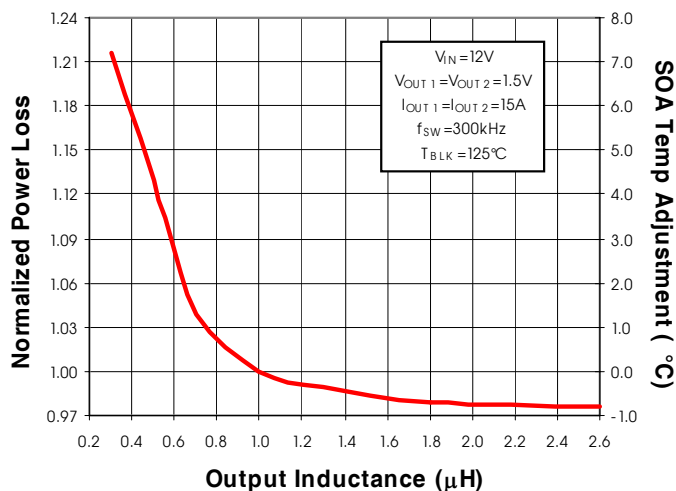

Fig. 7: Normalized Power Loss vs. Inductance
(Fig. 7) Normalized power loss for inductor value \approx 0.98
- (Fig. 7) Normalized power loss for inductor value ≈ 0.98
- (Fig. 7) Normalized SOA Temperature for inductor value $\approx -0.7^{\circ}C$